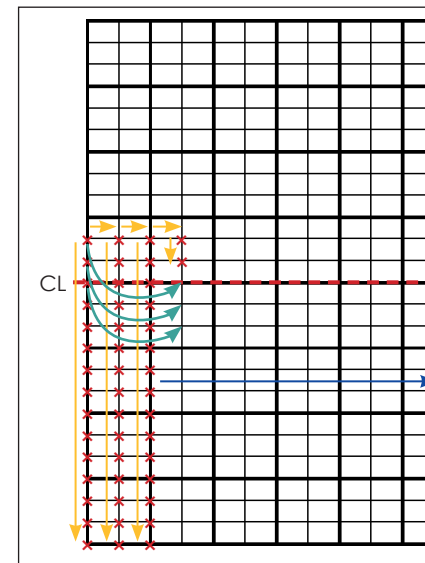

Figure 46: Use Jigs for XY Axis Seam Adjustment
- Repeat **Steps 4-9**, working from two lines above the CL downward to the bottom of the display. Refer to **Figure 46**.